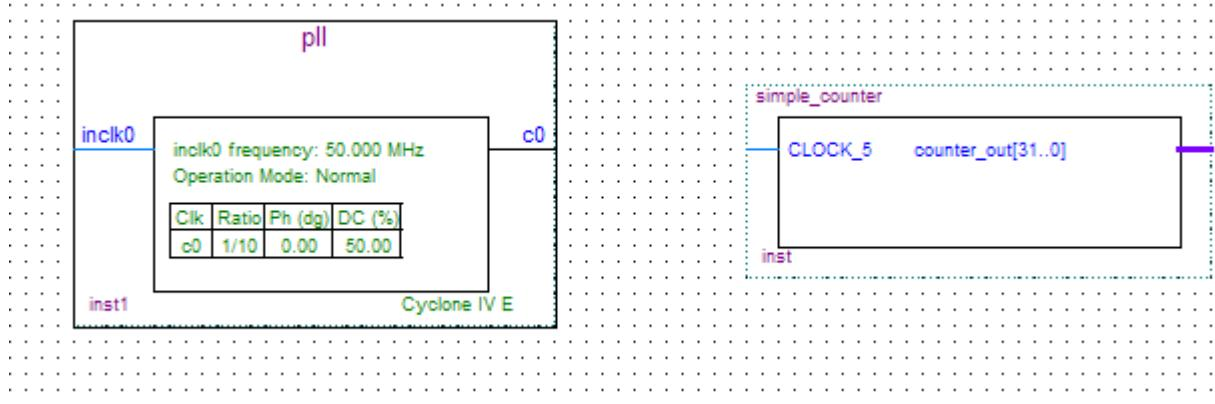

Figure 6-26 Place the PLL Symbol
- Click **OK** and place the pll symbol onto the BDF to the left of the simple_counter symbol. You can drag and drop the symbols, if you need to rearrange them. See **Figure 6-26**.